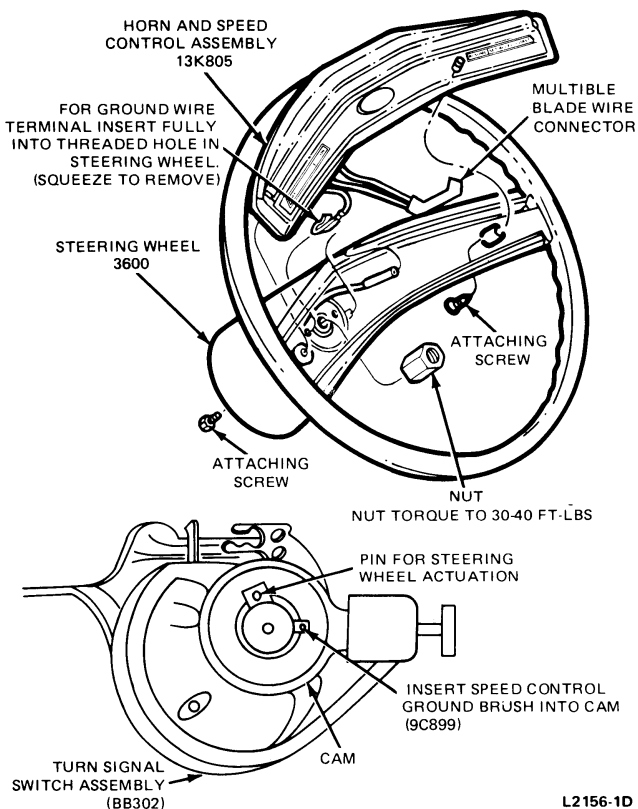

FIG. 2 Horn and Speed Control Switch and Wiring Installation
2. Install the steering wheel trim pads and the steering wheel (Fig. 2).